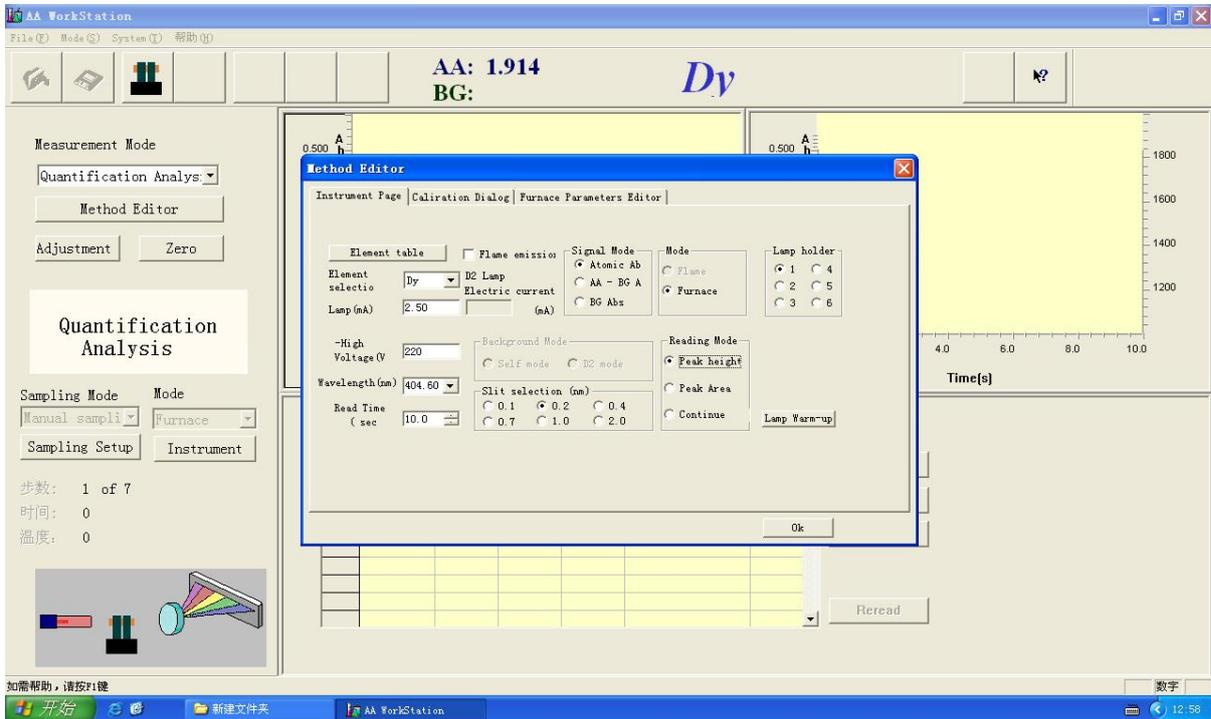

Figure 4-29
15. There are two modes, "Flame" and "Furnace", the instrument can automatically identify different atomizer when it starts to work (Figure 4-29)